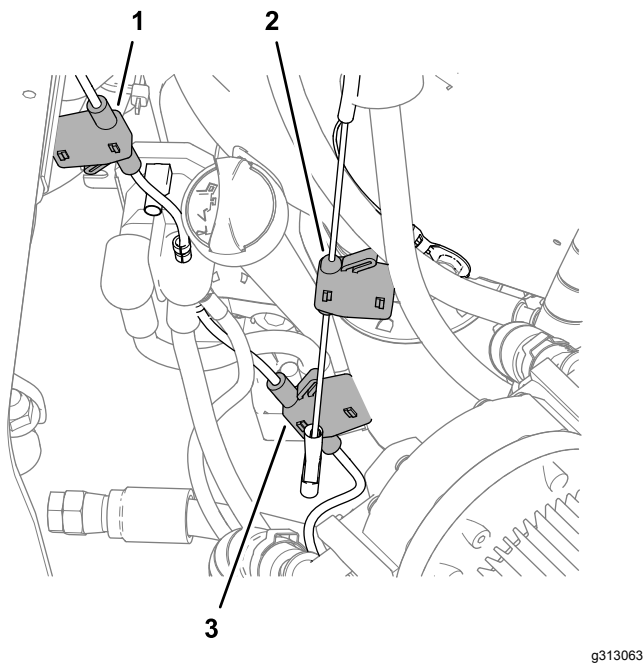

Figure 87
6. Close the cover onto the fuse holder until the cover latches securely (Figure 87).
3. Open the cover of the fuse holder (Figure 87).
4. Pull the fuse from the socket of the fuse holder (Figure 87).
5. Install a fuse of the same type into the socket of the fuse holder (Figure 87).